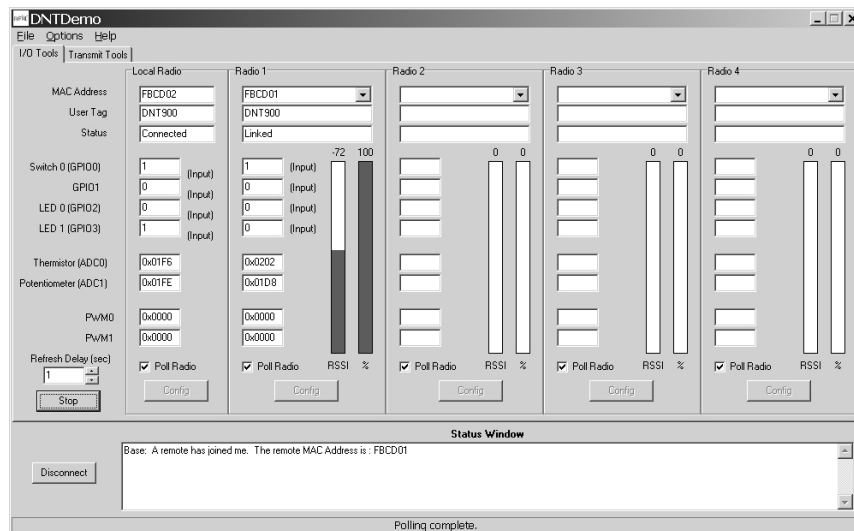

Figure 8
- The Demo will display updated data on the Remote in the *Radio 1* column, including bar graphs of *RSSI* (signal strength) and percent packet success rate, as shown in Figure 8. Adjusting the pot on the Remote can be observed on the *Potentiometer (ADC1)* row. See the *DNT900 Integration Guide* for information on other DNT900 utility programs.